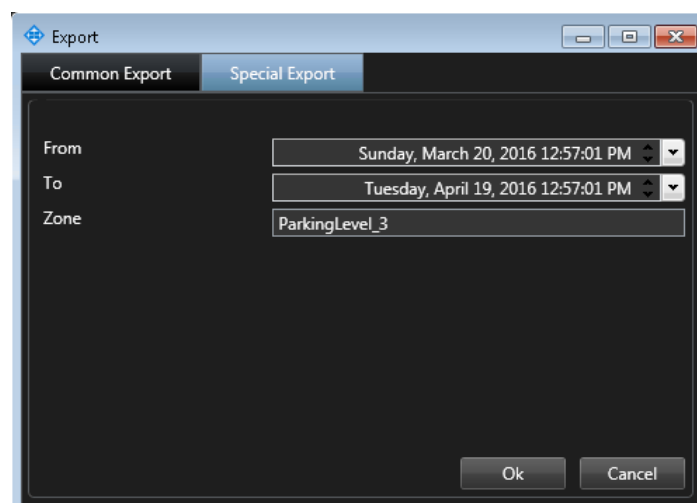

Figure 16
- **Special export** tab (Fig. 16) to select a parking zone where the events were registered within a specific period of time.